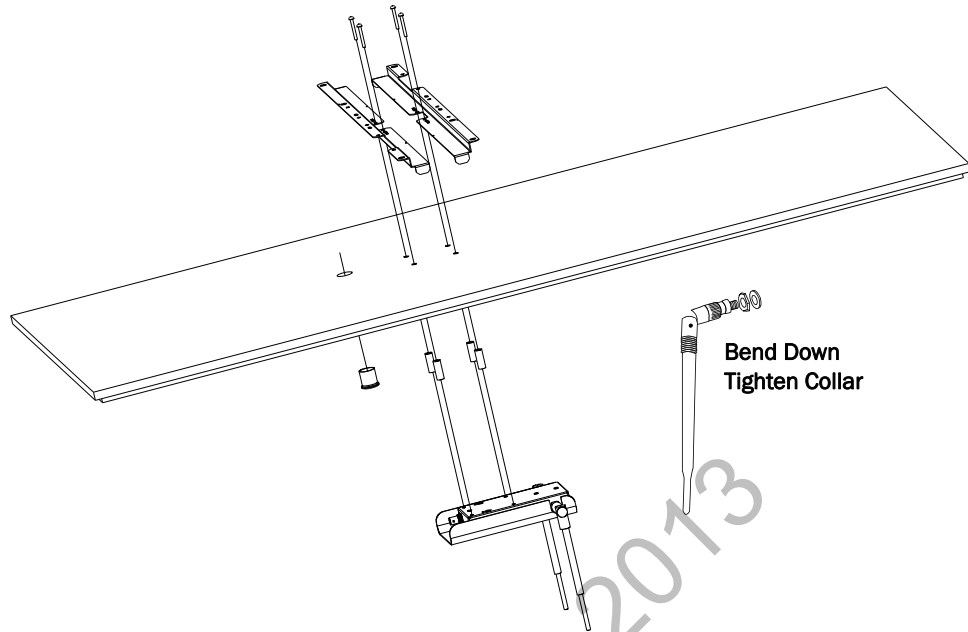

Figure 2-20: Mounting the RA Below a Ceiling Tile (Fixed Mount)
7. Insert the four (4) M3-.5 x 30 lobe screws into the RA mounting rail holes, through the ceiling tile, through the provided plastic spacers, and into the mating holes in the back of the RA chassis as shown in Figure 2-20. Torque-tighten each screw to 8-inch lbs.